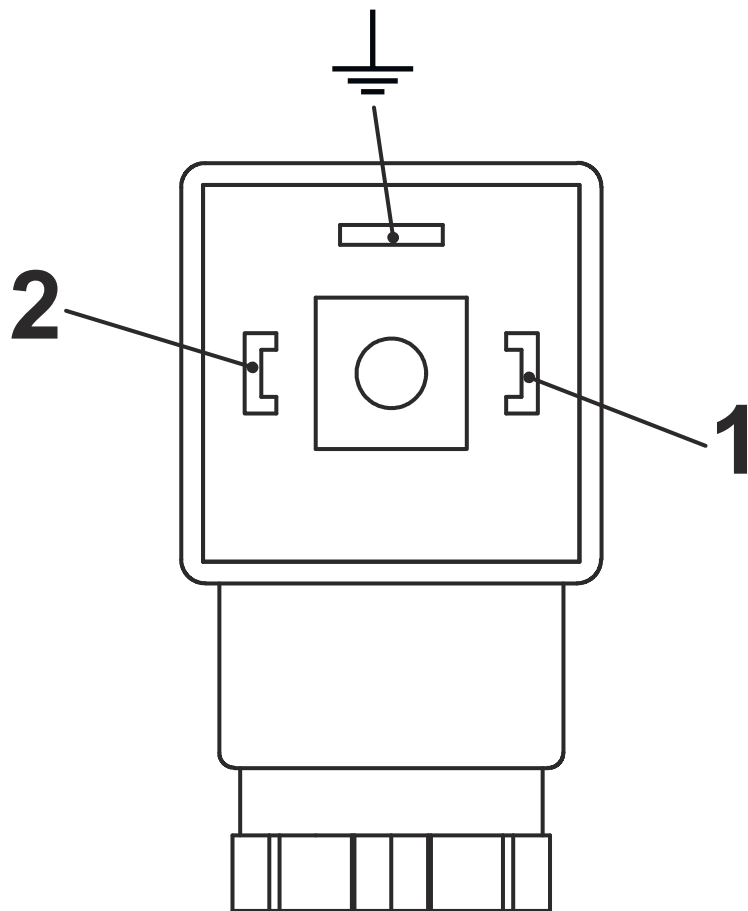
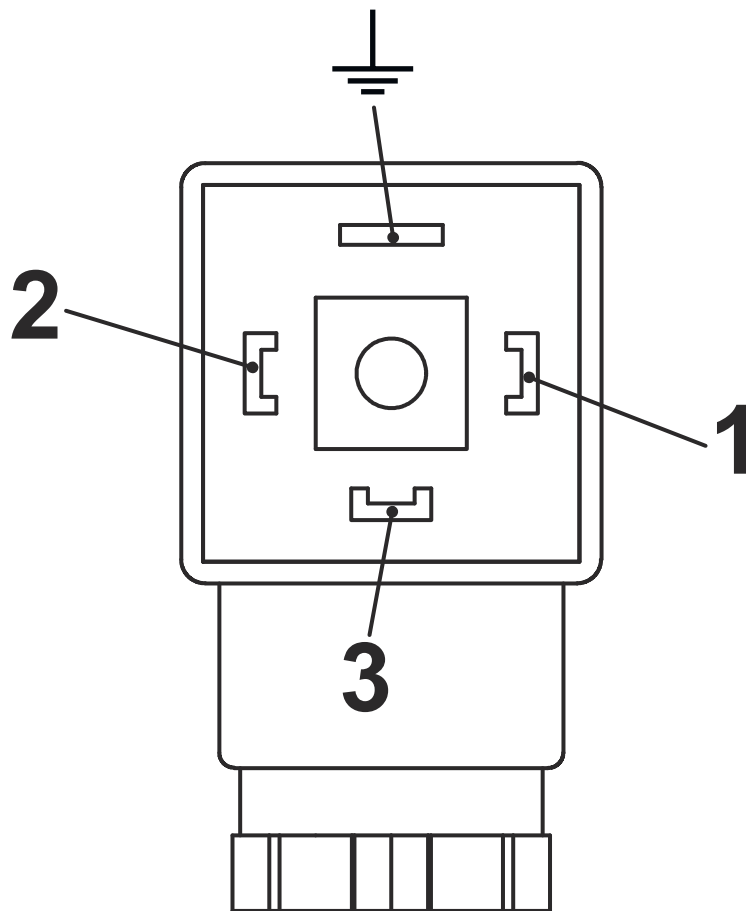

Fig. 25: Pin assignment, plug socket, normally-open contact (Form 15x50)
Fig. 26: Pin assignment, plug socket, change-over contact (Form 15x50)
- 6.** ➤ Make the connections as shown in connection diagrams (*Fig. 25* and *Fig. 26*)